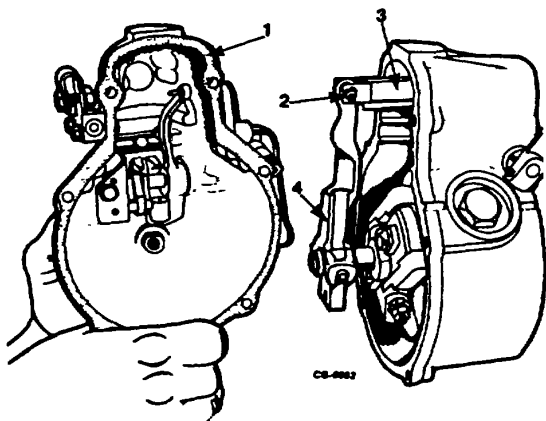

Figure 8. Removing Governor Cover
7. Remove six governor cover screws and take off governor cover (Figure 8). Lift cover up and operate control lever to release internal linkage.